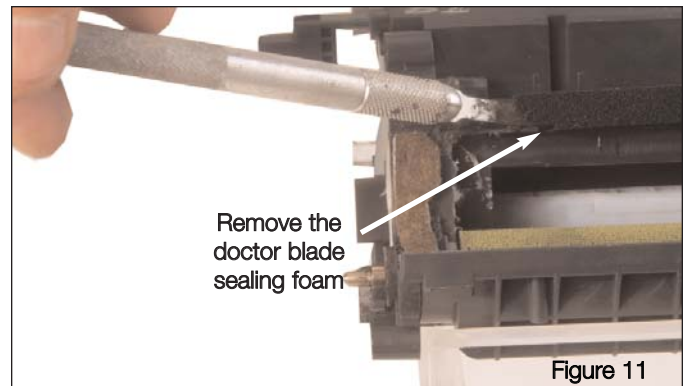

Figure 11
- h. Use a Curved Scraper Tool (CSBTOOL) to remove the Doctor Blade Sealing foam as shown in Figure 11.